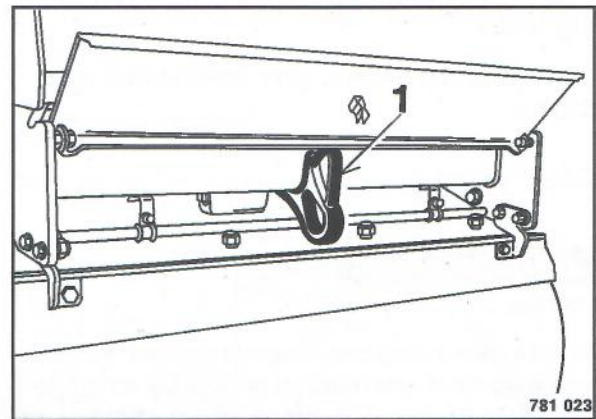

Fig. 46
- Attach the drawbar to the front or rear towing hitch (1) (Fig. 46).